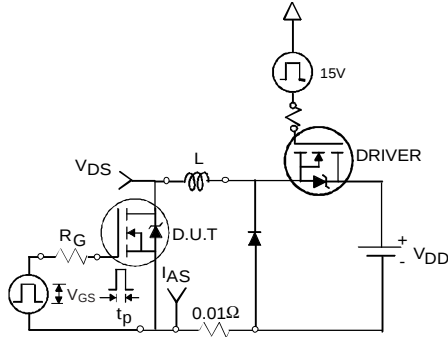

Fig 12a. Unclamped Inductive Test Circuit
3. Equation below based on circuit and waveforms shown in Figures 12a, 12b.
- ④ Pulse width $\leq 300\mu\text{s}$; duty cycle $\leq 2\%$.
- ⑤ C_{OSS} eff. is a fixed capacitance that gives the same charging time as C_{OSS} while V_{DS} is rising from 0 to 80% V_{DSS} .
- ⑥ Limited by T_{Jmax} ; see Fig 12a, 12b, 15, 16 for typical repetitive avalanche performance.
- ⑦ This value determined from sample failure population. 100% tested to this value in production.